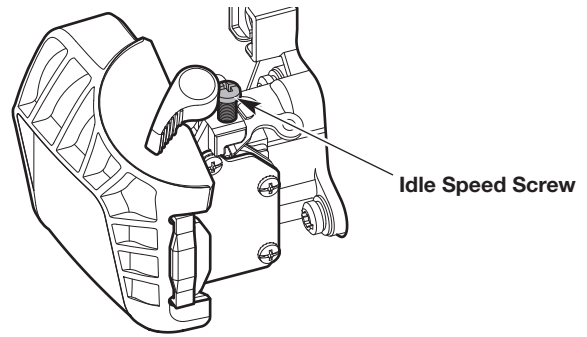

Fig. 11
- If the engine stops, increase the idle speed. Use a small Phillips screwdriver to turn the idle speed screw clockwise, 1/8 of a turn at a time, until the engine idles smoothly (Fig. 11).